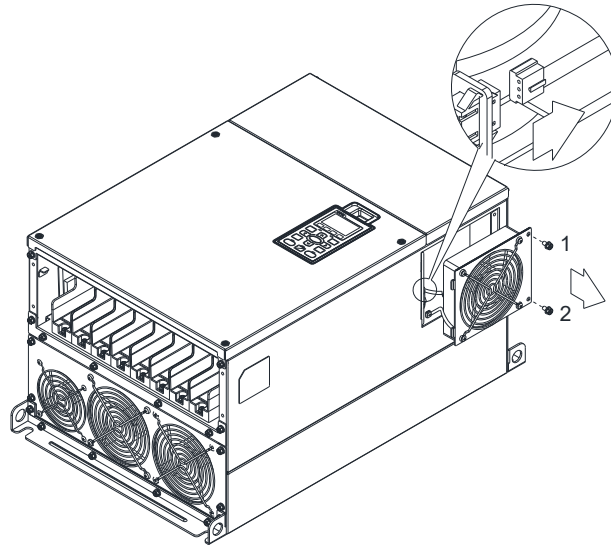

Figure 3
1. Loosen screw 1-2 (figure 3) and disconnect fan power and pull out the fan. (As shown in the enlarged picture 3) Screw 1-2 Torque: 24-26 kg-cm / [20.8-22.6 lb-in.] / [2.4-2.5 Nm]